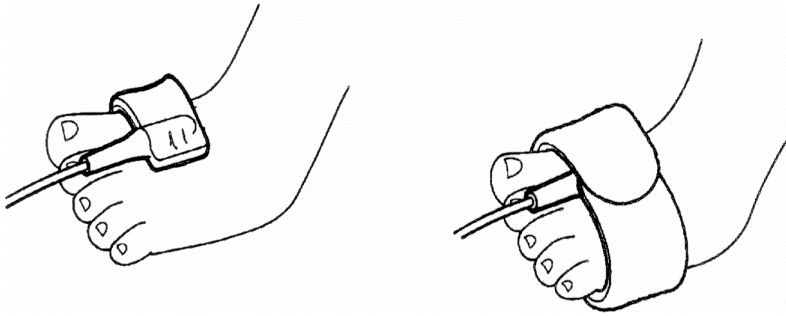

Figure 3-4 Applying the Semi-Disposable Sensor to infant
**Applying The Semi-Disposable Sensor (see Figure 3-4 and 3-5).**